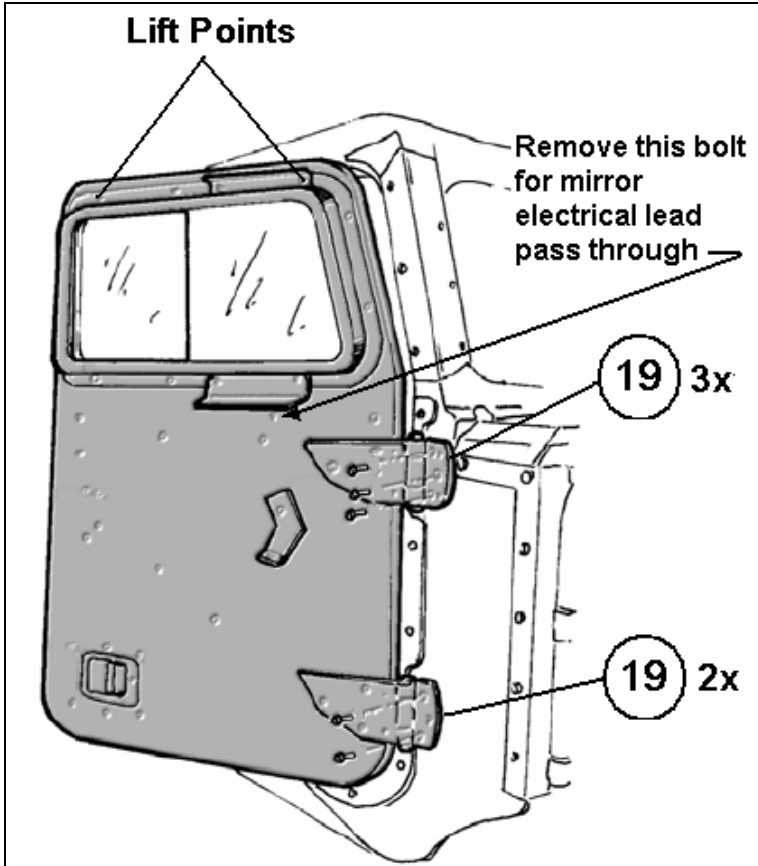

Figure 5-92. RH Armored Door Installation (1 of 4).
3. Raise the door into position with a fork lift or similar lifting device. Install bolts (19) and washers (31) to attach the hinges to the cab. Omit the center bolt on the lower hinge at this time. Refer to Figure 5-92. Snug the bolts down, but do not fully tighten at this time. Note that washers are not used on these bolts.
12. Install OEM mirrors using original hardware. For electric mirrors, remove the bolt indicated in Figure 5-92 and pass the wire through the resulting hole.